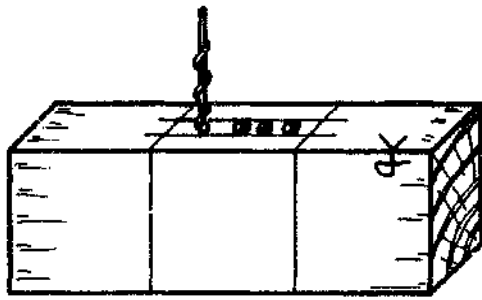

Fig. 6
- Most of the waste may be bored out (Fig. 6). Bore halfway through from both edges. Make sure you keep the brace at a 90 degree angle to the edge.